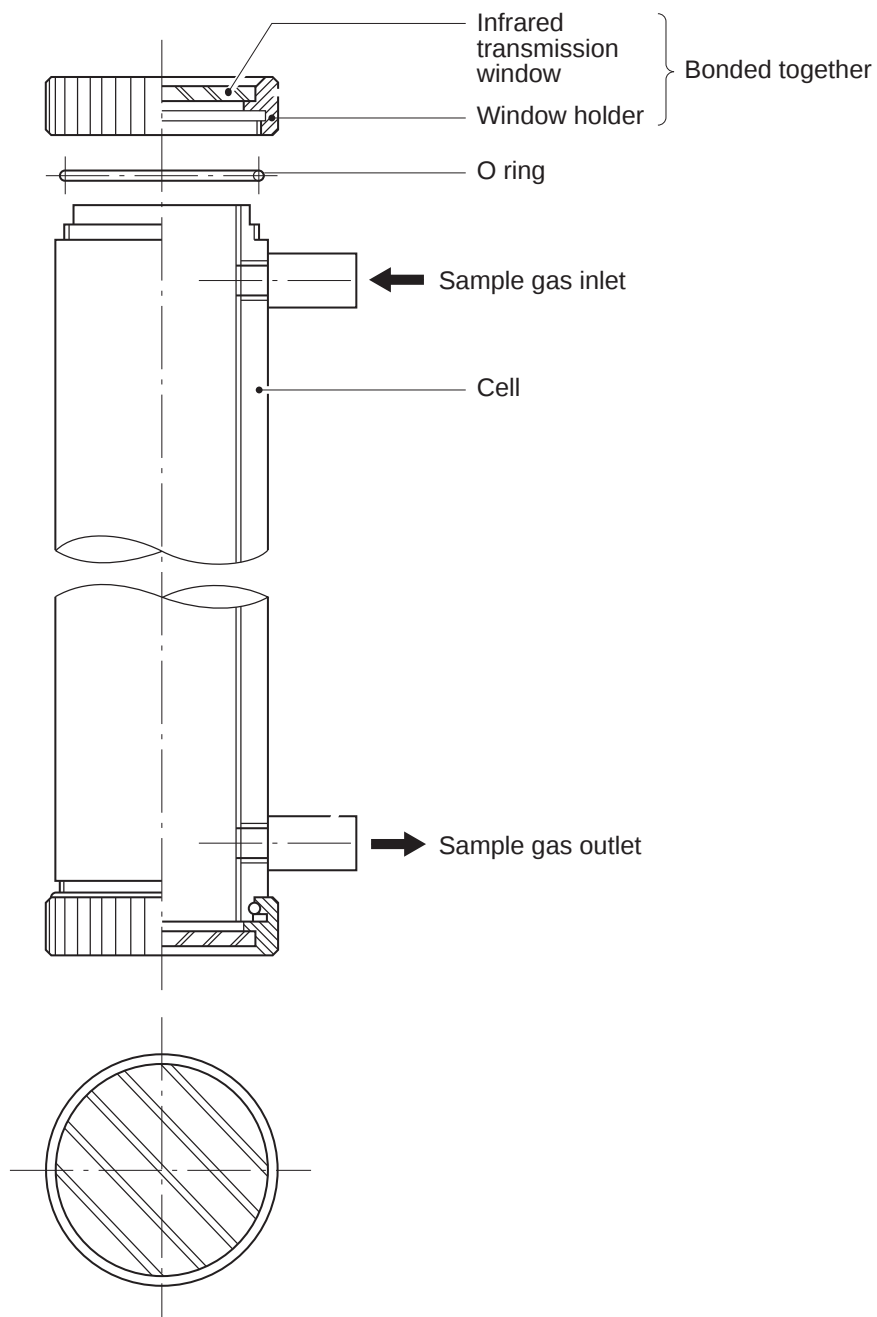

Fig. 7-1 Structure of sample cell (pipe cell)
- (2) Remove the internal gas inlet tube.
- (3) Loosen both right and left screws for cell holding plate.
- (4) Turn to the left the sample cell window and remove it from the sample cell (see Fig. 7-1).
- (5) For cleaning the window and cell inside surface, first eliminate coarse dust by soft brush or the like and then wipe them by soft rag.